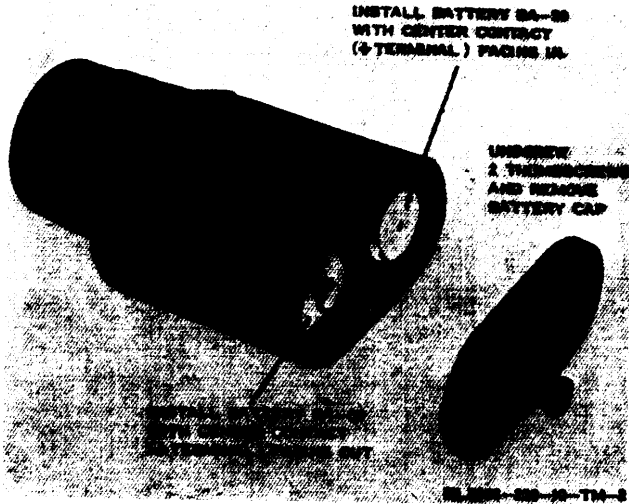

Figure 2-1. Battery BA-30 installation.
Refer to figures 2-1 and 2-2 for directions on installing the batteries.
(1) Keep an extra set of batteries in your inner pocket as close to your body as possible for warmth.
(2) After approximately 1 hour of operation, remove the batteries (fig. 2-1 and 2-2) and install the warm batteries from your pocket.
(3) Place the removed batteries in your inner pocket; reinstall them after approximately 1 hour.
| 5                         |   |   | BATTERIESInspect the BA-30's and BA-1312; replace them (fig. 2-1 and 2-2) if any evidence of corrosion is found.                                                                               | .1              |
|                           |   | 8 | <p>CONDITION OF EQUIPMENT(cont.)</p> <p>piece, objective lens, and infrared filter with lens tissue.</p> <p>b. Inspect housing surfaces for scratches, cracks, dents, or other damage. Report any damage to organizational maintenance.</p> <p>c. Remove the BA-30's and BA-1312 (fig. 2-1 and 2-2) after completion of the mission.</p> |                 |
*b. Light Source.* If the light source fails, replace the batteries (fig. 2-1).